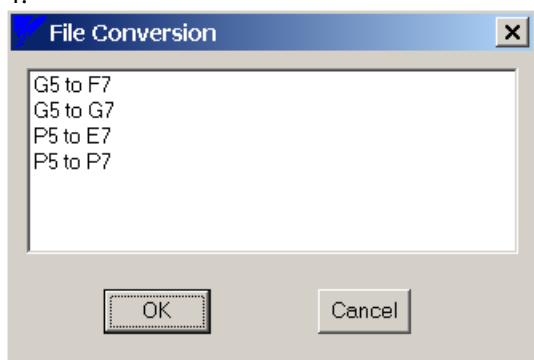

Figure 4.17: Select File Conversion Type
2. Figure 4.17 will appear. Click on G5 to G7 and then click on **OK**.